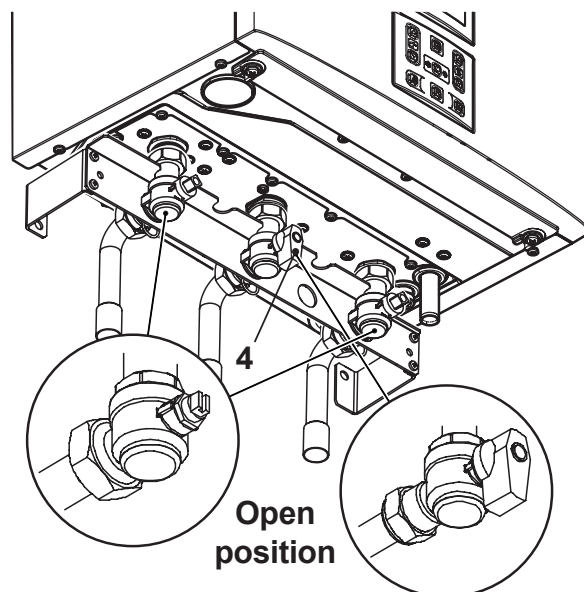

Fig. 7.1
- Open the gas cock 4 (Fig. 7.1) on the appliance and check the gas connector on the